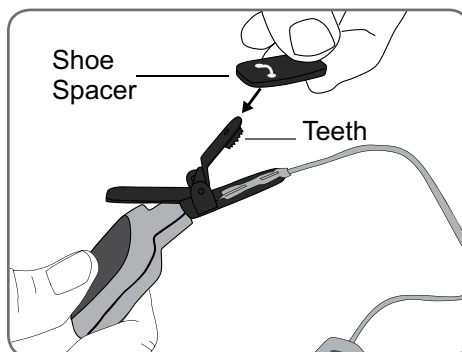

Figure 6-7: Covering the clamp with the shoe spacer.
4. Cover the clamp on the transmitter with the shoe spacer, if desired. See Figure 6-7. The teeth of the clamp may scuff the shoe, if not covered.